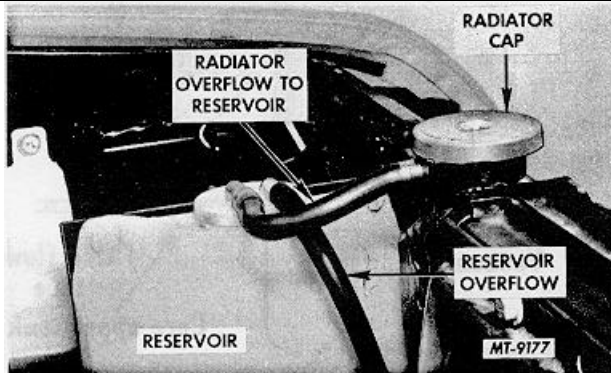

Fig. 2 Coolant System Reservoir Installation
6. Reservoir System-(if so equipped). The reservoir installation consists of a simple, plastic reservoir mounted near the radiator cap, coolant lines and a special radiator cap (Fig. 2). Once the radiator cap is installed, it should not be removed except when the cooling system is cold and for refilling after the entire system is drained. With this system, coolant make-up originates from the reservoir. Coolant overflowing from the radiator enters the reservoir to be conserved until drawn back into the cooling system (engine and radiator) when it cools down. The reservoir installation provides a means of removing air from the cooling system and keeping the coolant level at a maximum fill condition.